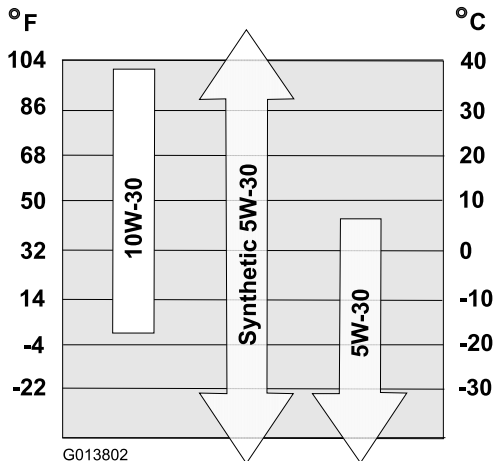

Figure 20
| Oil viscosity | Refer to Figure 20 . |
6. Use Figure 20 to select the best oil viscosity for the outdoor temperature range expected: